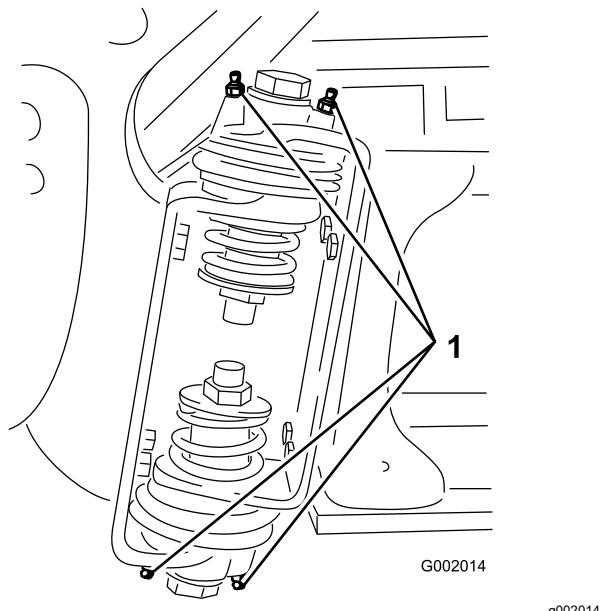

Figure 38
2. Pump grease into the bearing or bushing at each fitting (Figure 38).